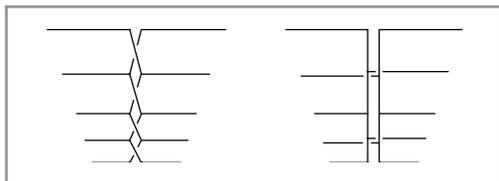

Fig. 7.4. Feed arrangements for log-periodics
Practically the only application of an all-driven endfire array is the *logarithmic-periodic* (LP) antenna. Fig. 7.4 shows two of the several possible ways of providing the required phase shift (close to 180°) between adjacent ele-